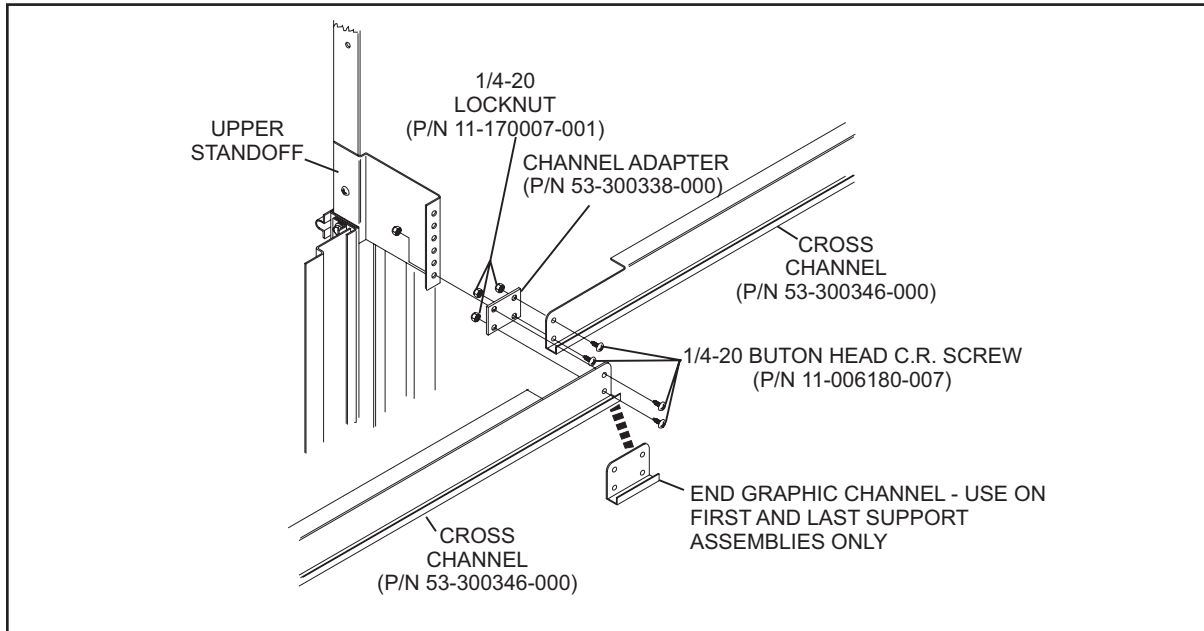

Figure 39
1. Install upper cross channels with hardware provided. Refer to *Figure 39*.
2. Use one hole in Z-bar to secure cable. Refer to Figure 39.